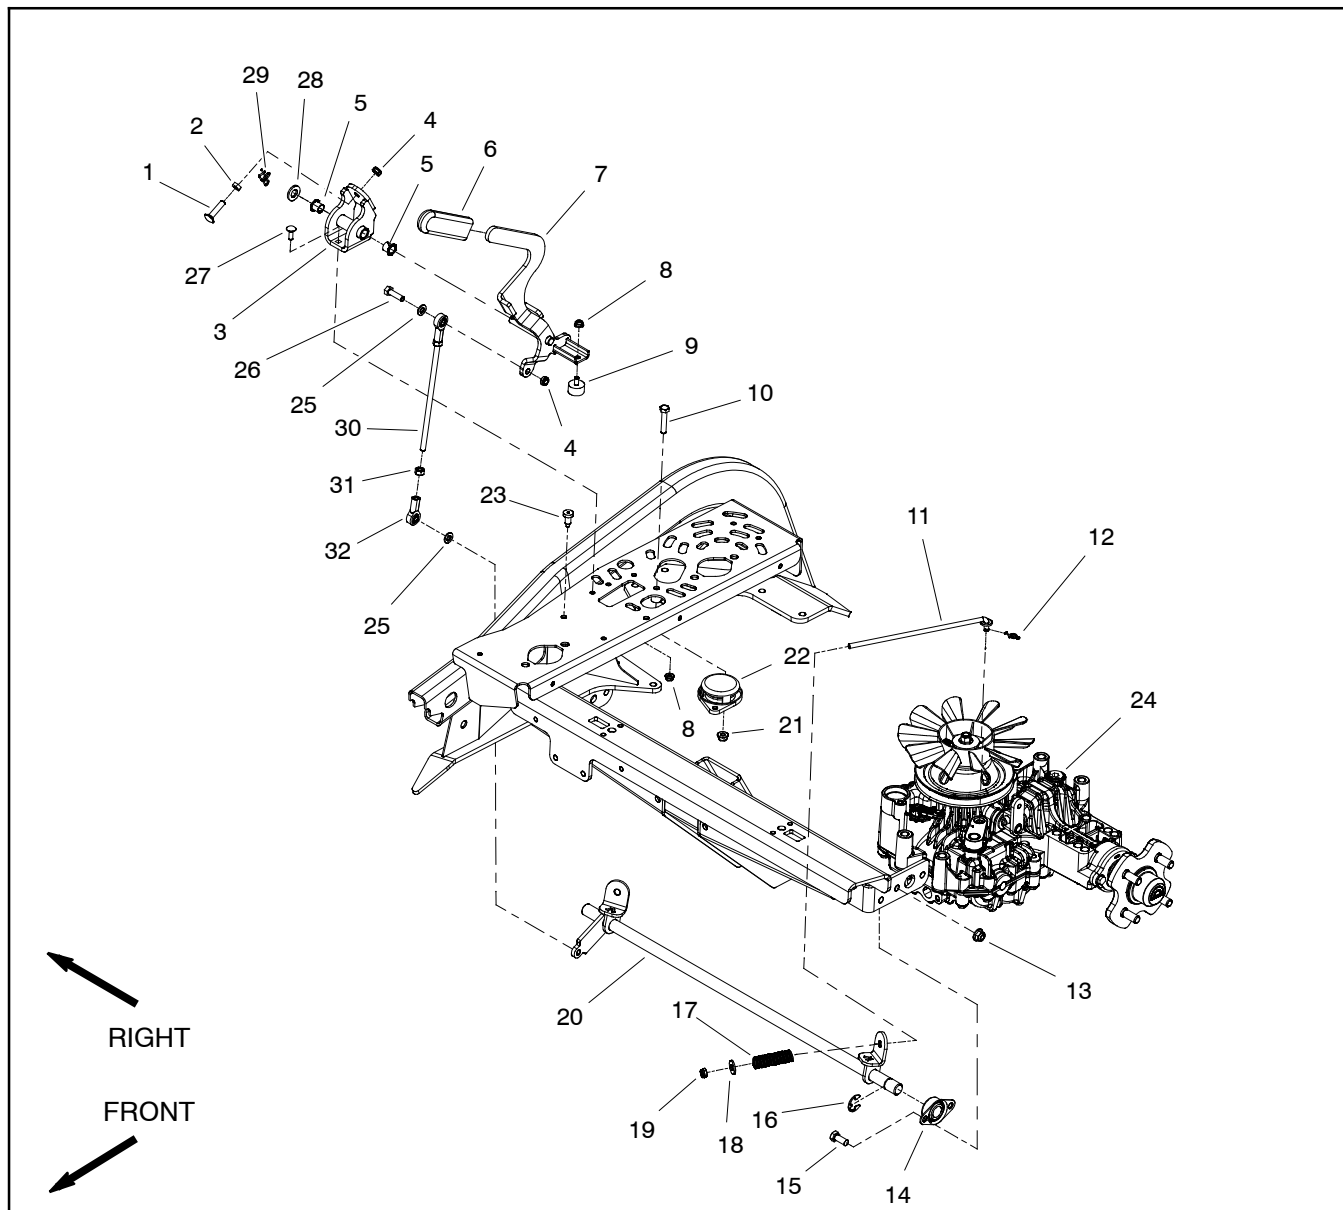
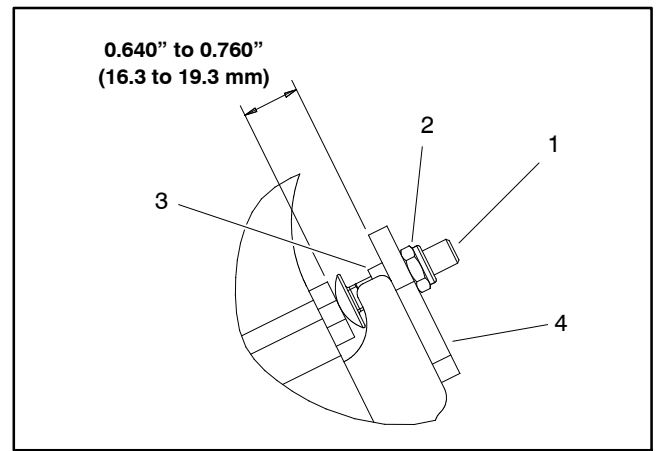

Figure 6
Figure 7
Removal (Fig. 6)
3. Remove parking brake components as needed using Figure 6 as a guide.
Installation (Fig. 6)
1. Install removed parking brake components using Figure 6 as a guide. Also, use the following adjustment dimensions and Figures 7, 8 and 9 during assembly:
A. If carriage bolt (item 1 in Fig. 6) was removed from brake handle bracket, adjust head of bolt so that it is from **0.640" to 0.760" (16.3 to 19.3 mm)** from brake handle bracket.
B. If ball joint or hex nut was removed from brake rod (item 30 in Fig. 6), make sure that the balljoint centers measure from **9.040" to 10.060" (229.7 to 255.5 mm)** and that the balljoints are parallel.
C. If brake rod (item 11 in Fig. 6) was removed from brake shaft, engage parking brake and adjust length of compression spring from **1.875" to 2.125" (47.7 to 53.9 mm)** measured at top of brake shaft bracket.